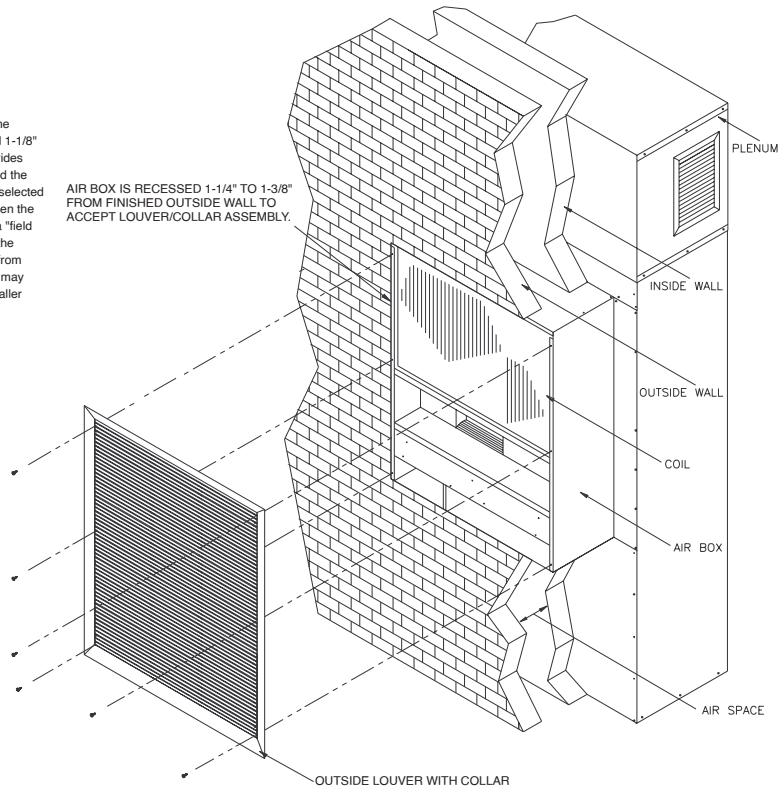

Figure 2. Installation of Louver/Collar Assembly to Air Box
1. The louver/collar assembly is **fastened directly to the air box** as shown in Figure 2, with six screws supplied with the louver/collar. Prior to installing the louver, apply caulk around the perimeter flange of the outdoor air box. Be careful not to block the weep holes on the bottom flange. To ensure proper fit up of the collar to the outside wall surface, be sure the unit is positioned as shown in Figure
2. The louver/collar assembly is **fastened directly to the outside wall**, as shown in Figure 2.
The louver itself may be fastened to the air box as shown in Figure 2.
The collar itself may be fastened to the outside wall by following the instructions in Figure 2.